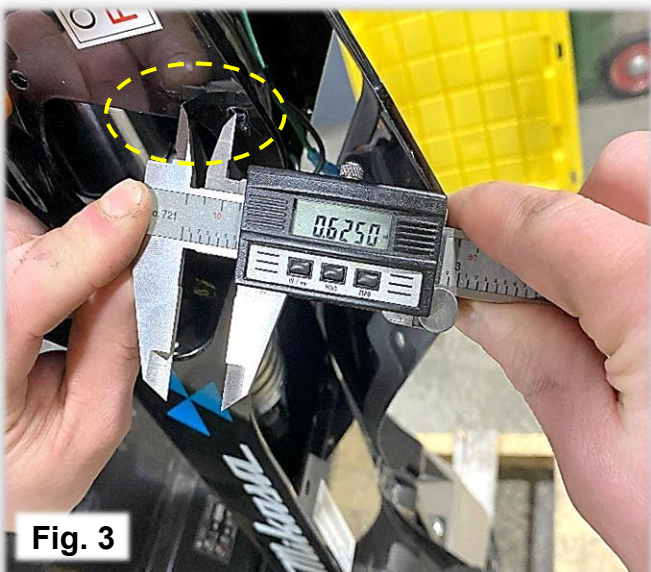

Fig. 3
4. Start from the right side and make a mark (.625") from the center of the right-side bolt hole on the top and the bottom of the opening, (Ref. Fig. 3 & 4).